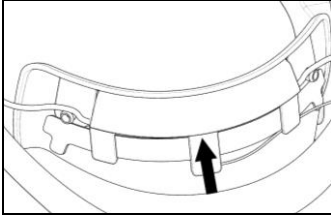

Fig. 31
- Position the wiring underneath the plastic tab (Fig. 31).